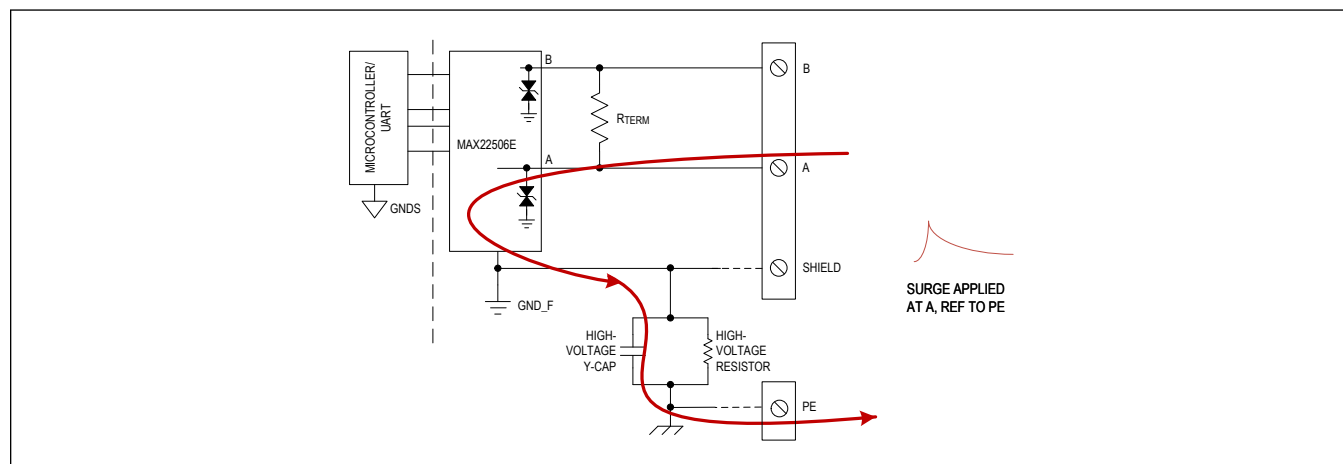

Figure 14. Surge Protection
Per the IEC 61000-4-5 standard, surge pulses must be referenced to protective earth (PE). Isolate PE from the field ground and connect a high-voltage capacitor and a high-voltage resistor between the field ground and PE. Figure 14 shows the current flow through the transceiver and PCB during a surge event. The MAX22506E survived 8/20 μ s surge testing up to \pm 2kV/42 Ω with a 1000pF high-voltage capacitor without the need for external TVS protection.